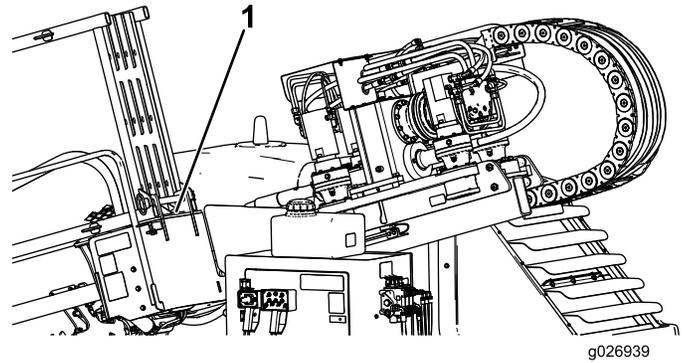

Figure 71
7. Store the cylinder lock at the rear of the pipe holder (Figure 71).